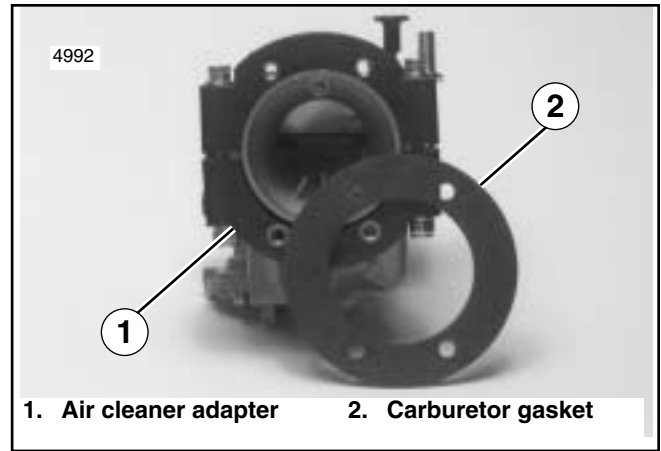

Figure 5. Air Cleaner Adapter and Carburetor Gasket
- 4b. See Figure 5. Place the carburetor gasket (2) and the backplate in position on the carburetor. Use two button head screws, diagonally opposite each other and snug the backplate up to the carburetor.
- a. Connect new long hose (1) to "Y" fitting (3) in previous location noted in Step 5 of Removal section of this instruction sheet. Connect remaining end of long hose (1) to vacuum operated fuel valve.
- b. Connect new short hose (2) to "Y" fitting (3) and remaining end to VOES fitting on manifold spacer.
7. See Figure 5. Align the air cleaner adapter (1) on the carburetor throat. Do not tighten bolts at this time.